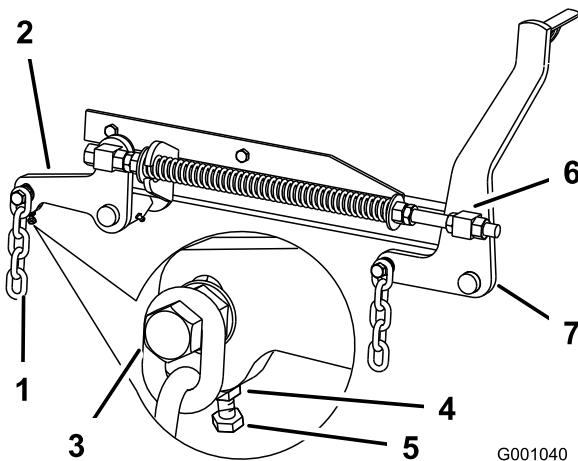

Figure 75
7. If the measurements at positions **B** or **C** are not correct, loosen the bolt attaching the rear chain to the rear support arm (Figure 75).
8. Loosen the jam nut under the rear support arm and adjust the adjustment bolt to get a measurement of 3-1/8 to 3-1/4 inches (80 to 83 mm) (Figure 75).
7. Loosen the front swivel jam nuts, at the front of the right and left swivels, approximately a 1/2 inch (13 mm) (Figure 75).
8. Adjust the lift nuts on both the left and the right side of the machine to achieve 1/4 to 3/8 inch (6 to 10 mm) lower in front at **A** than in the rear at **B** (Figure 75).